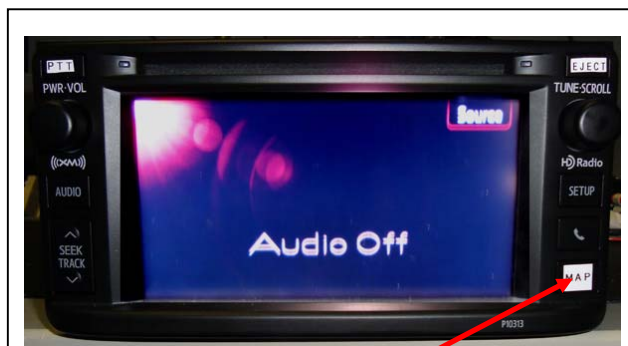

Fig. 8-2
- (b) In the sequence shown (1 to 4, Fig. 8-2), insert each bolt and hand start. Use the bolts removed in Section 2 “Disassembly of the vehicle.”